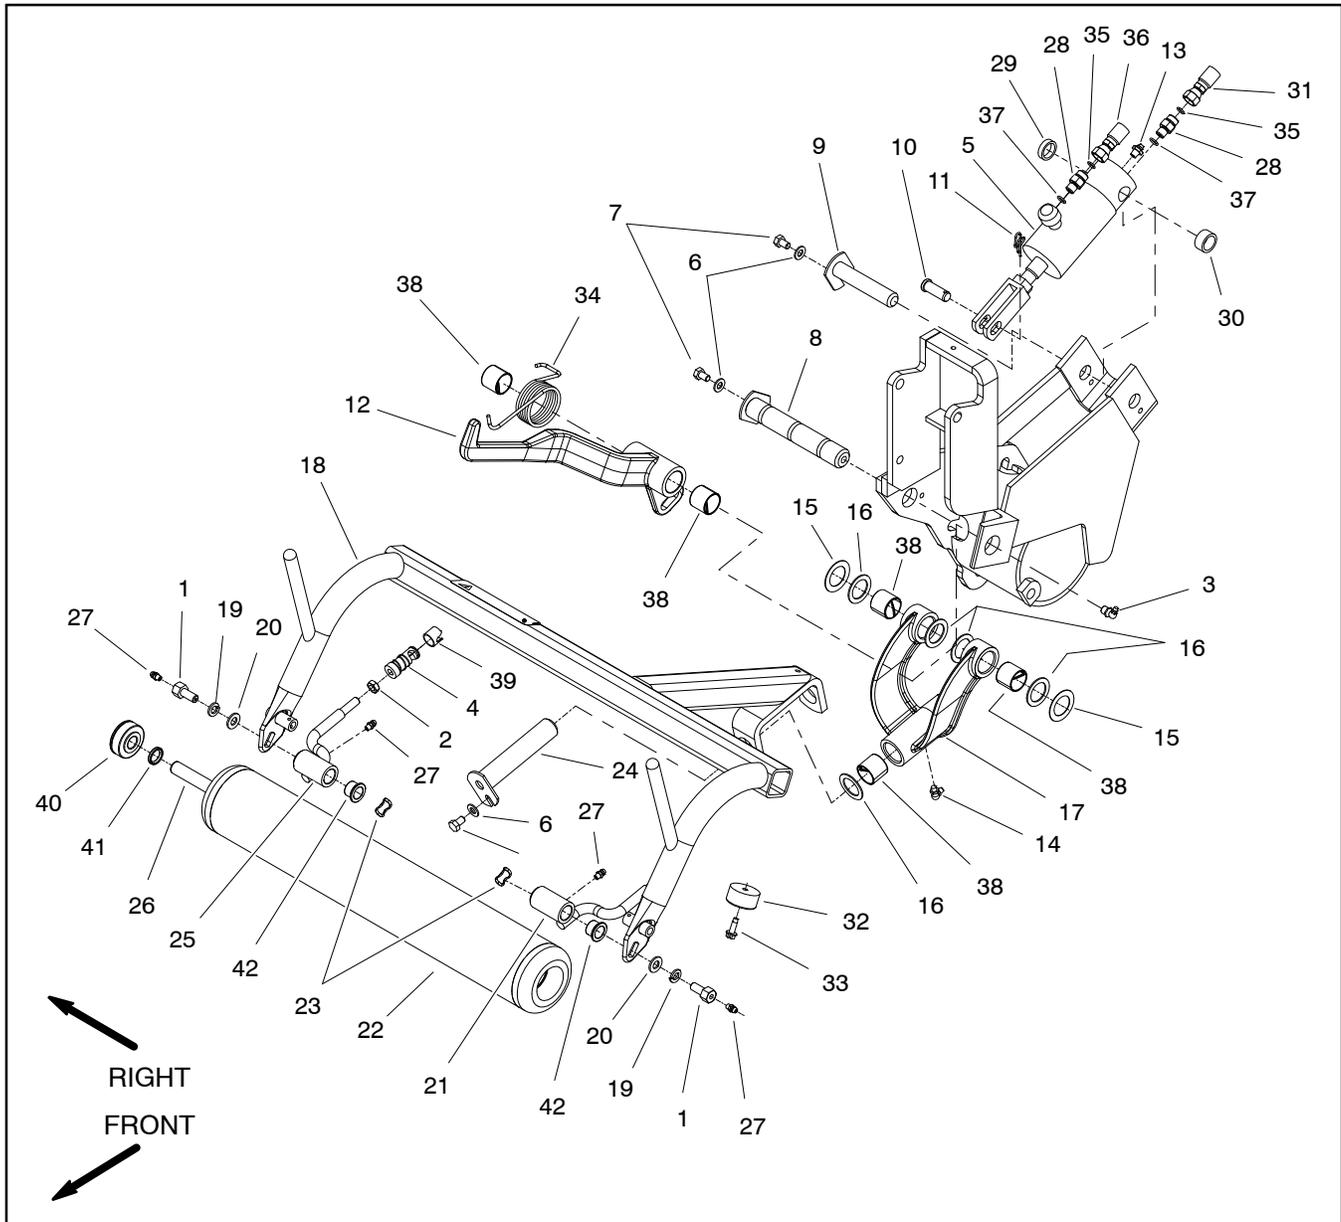

Figure 11
NOTE: The pull frame assemblies used on Greensmaster 3150 machines are slightly different depending on location (right front, left front and center positions). Service of the pull frame assembly is similar regardless of position on the machine. The right front pull frame assembly is shown in Figure 11.
Disassembly (Fig. 11)
2. Remove cutting unit pull frame components from machine as required using Figure 11 as a guide.
Assembly (Fig. 11)
1. Install all removed cutting unit pull frame components to machine using Figure 11 as a guide.